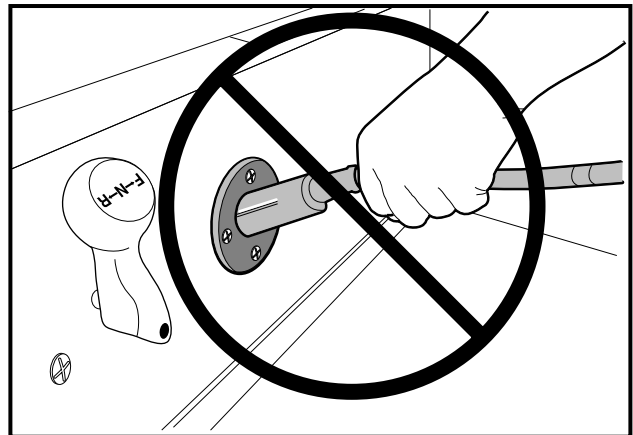

Figure 24 Incorrect Insertion of Charger DC Plug
- Do not pull on the DC cord (Figure 24, Page 39). Do not twist, rock or bend the plug. To disconnect the charger plug from the vehicle receptacle, grasp the plug by the handle and pull the plug straight out of the receptacle.